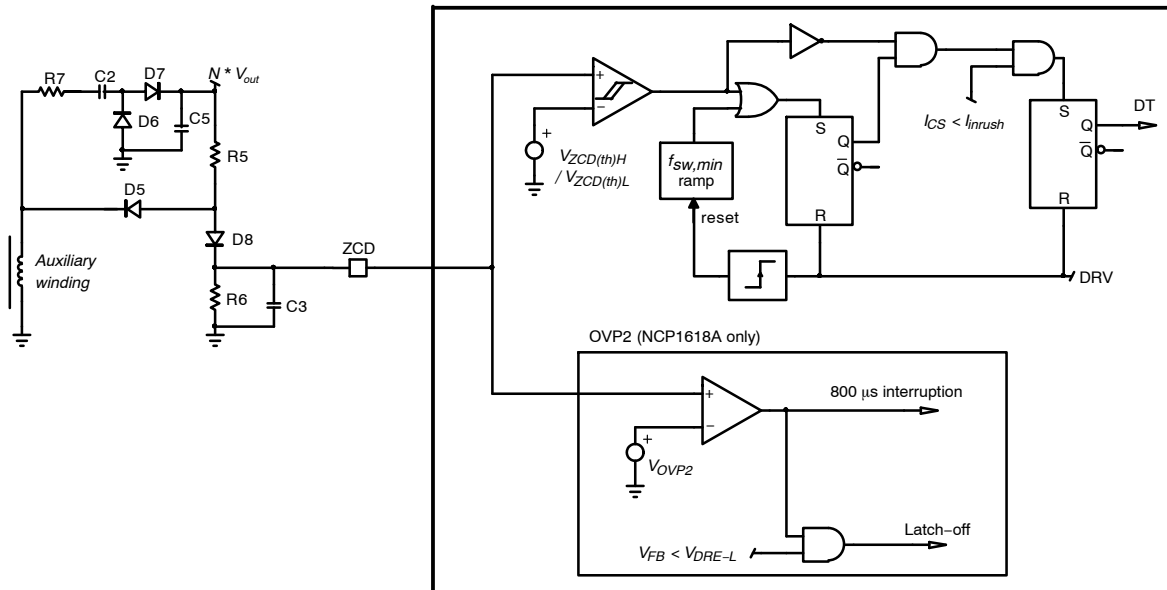

Figure 10. Zero Current Detection Block
- Application note AND90011 discusses recommended circuitries for an accurate ZCD and OVP2 detections. Figure 10 provides one of these circuitries. In this circuit,  $R_7$  being small, capacitor  $C_2$  is charged to
Figure 10 shows how the NCP1618 detects the valley.
- The ZCD pin impedance (for instance  $R_3$  of Figure 10), must be higher than 7.5 k $\Omega$  not to trigger the ZCD pin short-to-ground protection.
If no ZCD can be detected when the circuit operates in FCCrM mode, the circuit cannot use the valley detection to start a new current cycle. In this case, the next DRV pulse is forced by the DCM minimum frequency ramp ( $f_{sw,min}$  ramp of Figure 10) which acts as a watchdog.
- If the pin is grounded, no falling edge of the auxiliary winding can be detected. The DRV remains off until the DCM minimum frequency ramp initiates a new cycle. Before the new pulse is generated, the circuit senses the pin impedance by sourcing 250  $\mu$ A. No DRV pulses are generated until the pin voltage exceeds  $V_{ZCDH}$ . Hence, the part is inhibited when the pin is grounded. Not to trigger this protection, the pin impedance (for instance  $R_3$  of Figure 10, must be higher than 7.5 k $\Omega$ ).